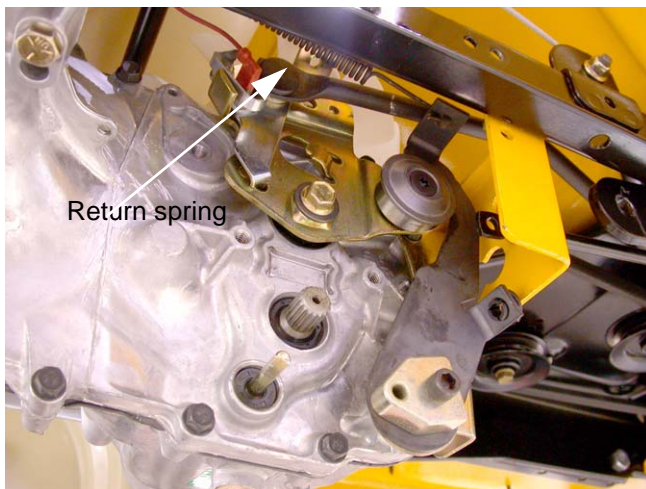

Figure 25.10
25.10. As the hydro control rod is pushed rearward, it draws the cam (front) surface of the input arm upward, forcing the neutral return arm forward, applying more tension to the return spring. See Figure 25.10.